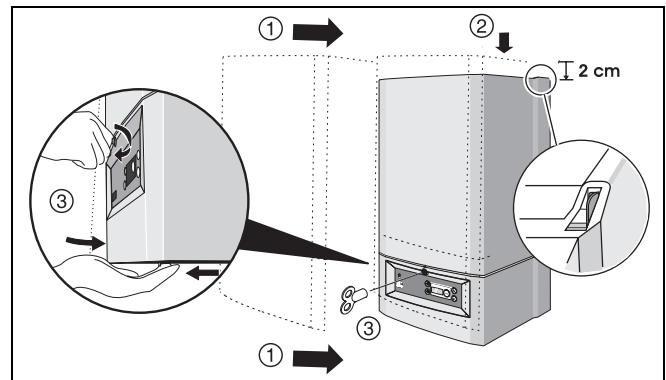

fig. 58 Refit casing
- Refit the casing and secure the boiler with the radiator key (see fig. 58).